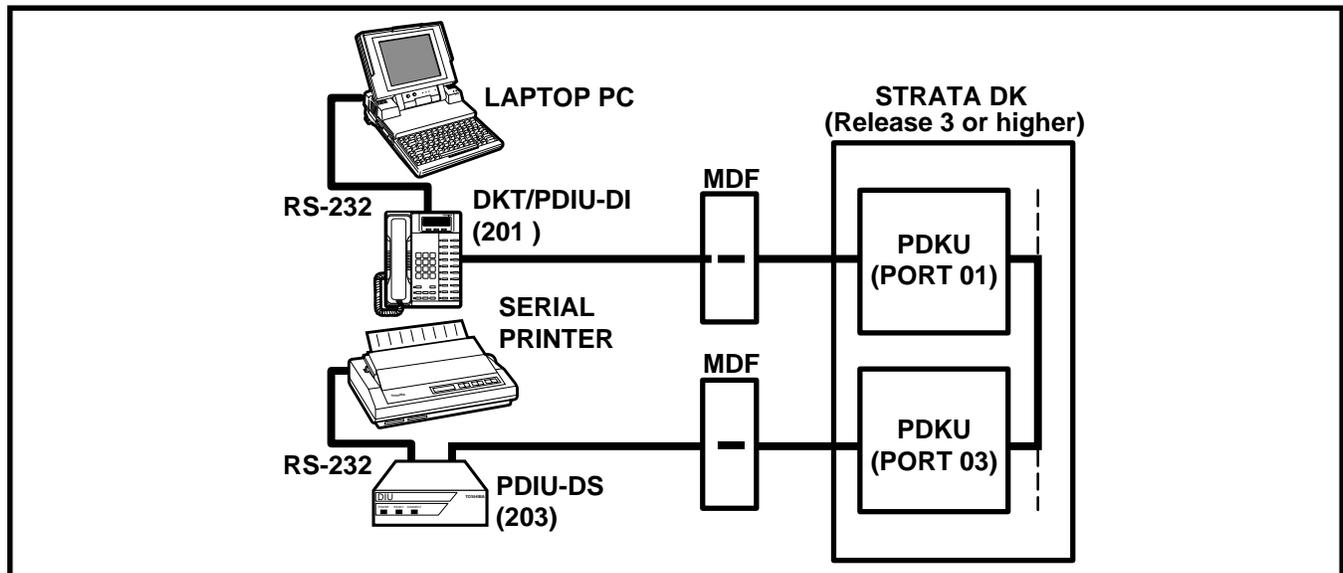

FIGURE 8-39
12.83 PC-to-Printer Test Call Using Manual Dialing (see Figure 8-39)